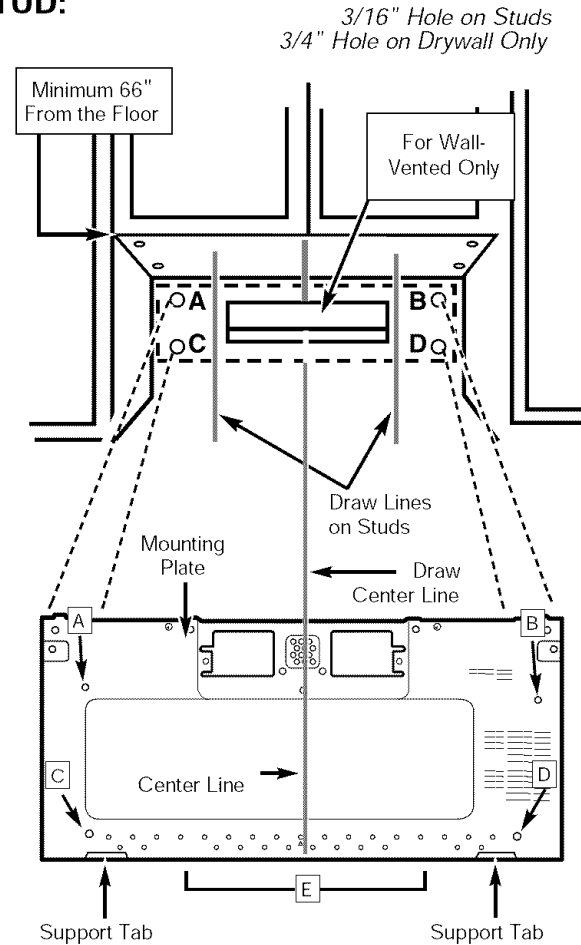
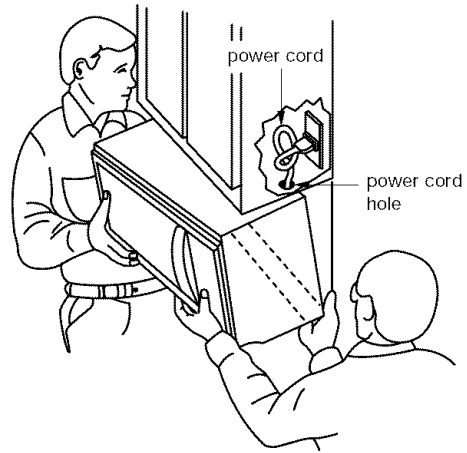

Figure 26
Figure 30
1. Carefully lift microwave oven and hang it on support tabs (See Figure 26 on the page 15) at the bottom of the mounting plate. Reaching through upper cabinet, thread power supply cord through the power supply cord hole in the bottom of the upper cabinet. See Figure 30.